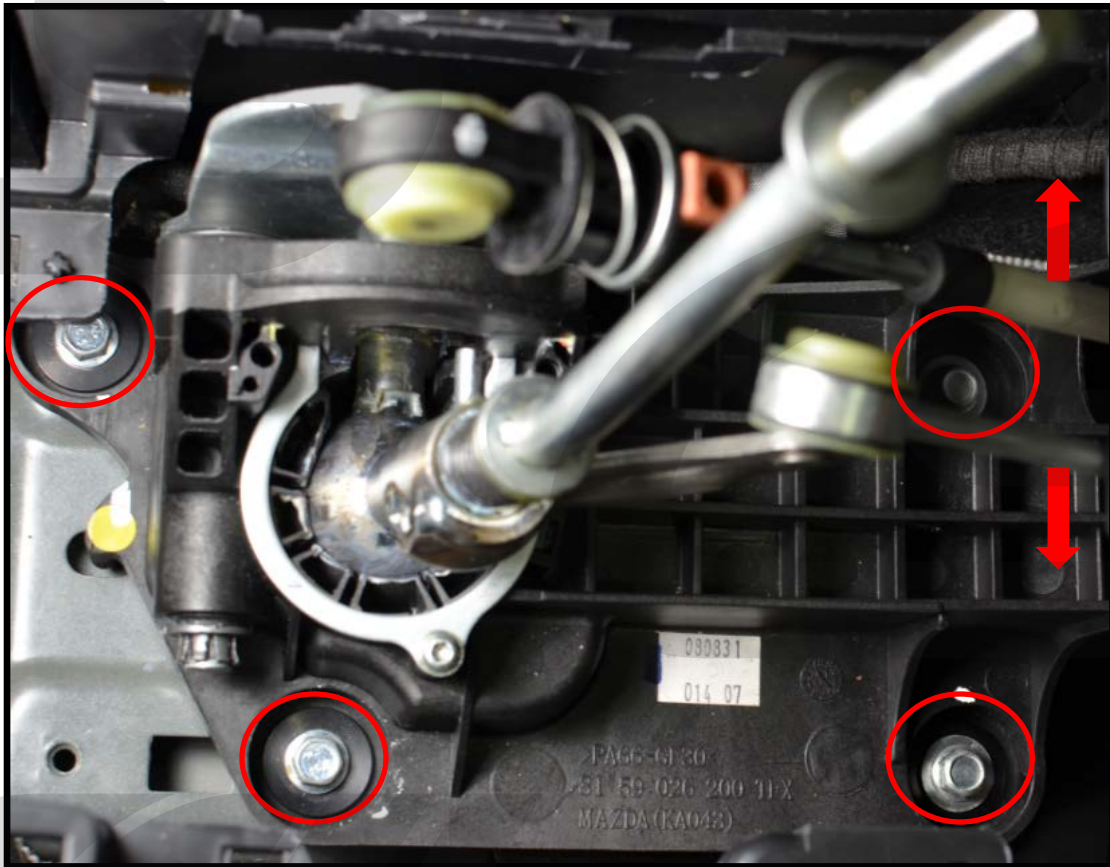

Figure 2d
- c) **Move the shifter cables out of the way.** Move the driver's side cable to the left and move the passenger side cable to the right (**Figure 2d**)
- d) **Remove the shifter assembly from the car** using a 10mm socket, long extension and ratchet wrench (**red circles** in **Figure 2d**).